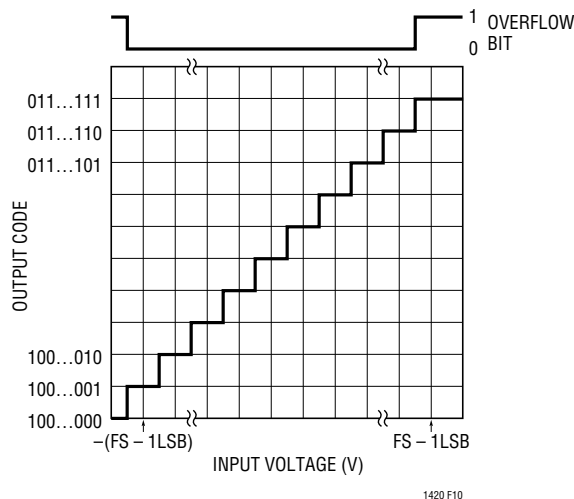

Figure 10. LTC1420 Transfer Characteristics
Figure 10 shows the ideal input/output characteristics for the LTC1420. The output data is two's complement binary for all input ranges and for both single and dual supply operation. One LSB = $V_{REF}/4.096$. To create a straight binary output, invert the MSB (D11). The overflow bit (OF) indicates when the analog input is outside the input range of the converter. OF is high when the output code is 1000 0000 or 0111 1111 1111.